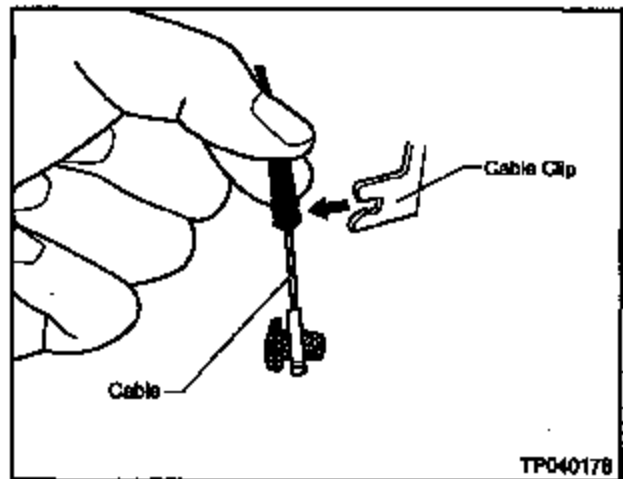

Figure 12
- Pull the Cables out of the Cable Clips (see Figure 12).